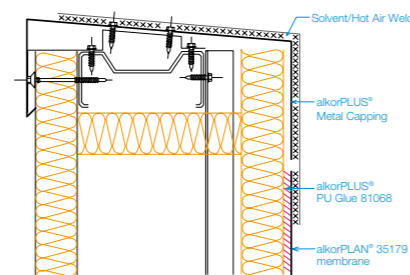

Fig. 2. gluing of parapets
- A mechanical edge restraint along the perimeter of the roof and around roof penetrations is not required where the roofing membrane is fully adhered in the perimeter area (minimum 2 m) and to the parapets. (See Fig. 2) The alkorPLUS® 81068 PU glue is applied to the surface of the upstand with a minimum consumption of 300 g/m2. The parapet will have an alkorPLUS® metal trim, but the compressive foam and intermediate fastening can be omitted.